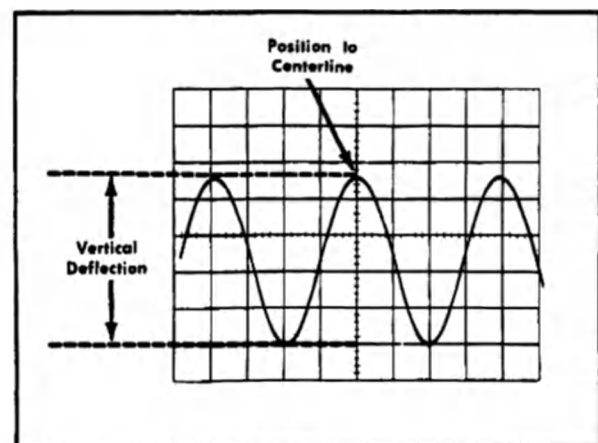

Fig. 2-10. Measuring peak-to-peak voltage of a waveform.
6. Turn the vertical POSITION control so the lower portion of the waveform coincides with one of the graticule lines below the centerline, and the top of the waveform is on the viewing area. With the horizontal POSITION control, move the display so one of the upper peaks lies near the graticule center vertical line (see Fig. 2-10).
Example. As an example of this method of measurement, assume that the peak-to-peak vertical deflection is 4.6 divisions (see Fig. 2-10) using a $10\times$ attenuator probe and a VOLTS/DIV switch of .5.